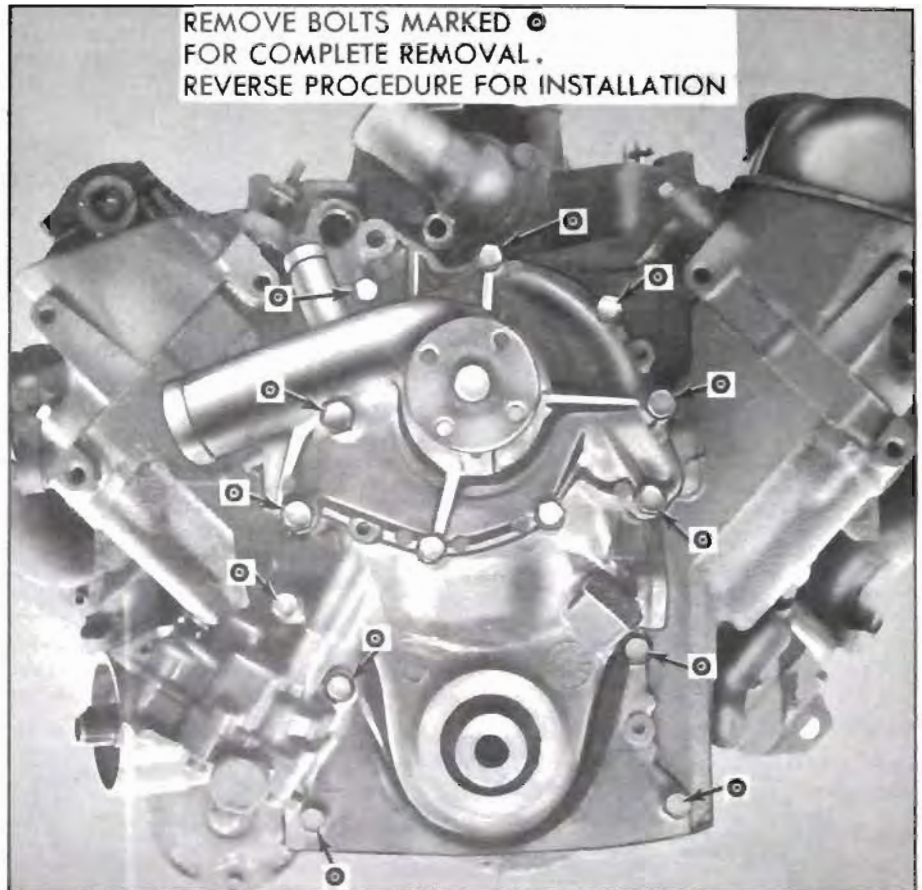

Figure 2-74—Timing Chain Cover Installation
4. Lubricate the bolt threads before installation and install as shown in Figure 2-74.